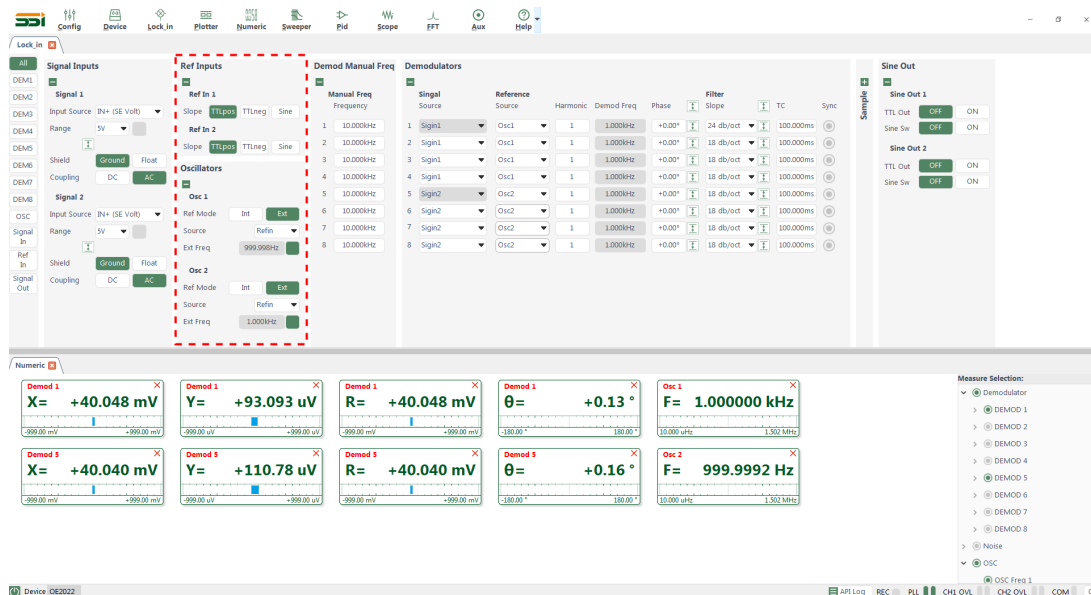
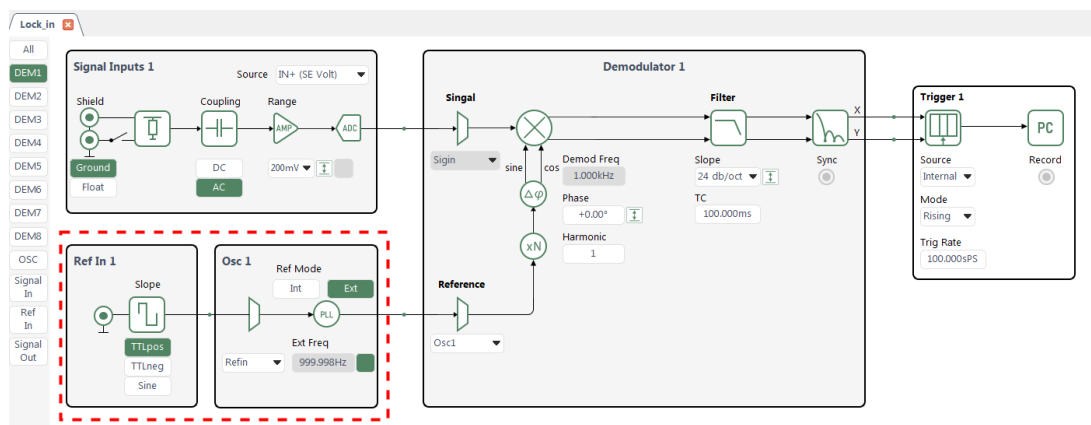

Figure 33. Reference Signal Configuration
Figure 34. Reference Signal Configuration Area in the Flow Diagram
2. According to the configuration in Table 4, select the reference signal source type and external reference in the reference signal configuration area. Keep the other options at their default values. As shown in Figure 33 and Figure 34, select either method to make the changes.